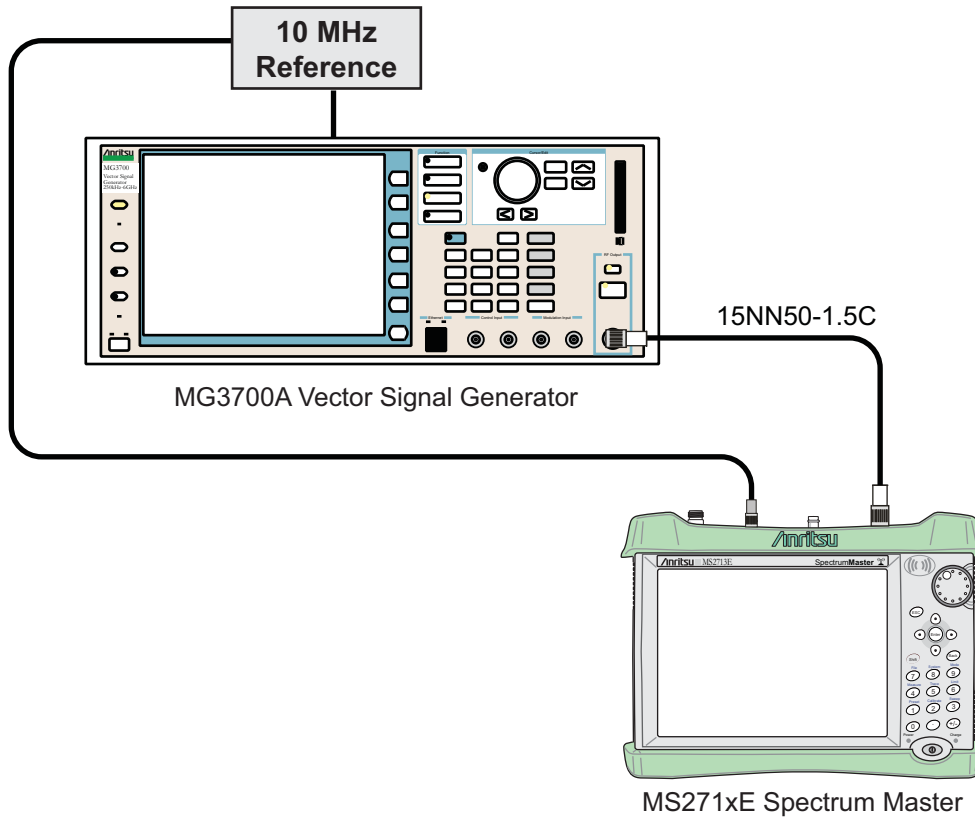

Figure 4-1. ISDB-T Signal Analyzer Test Setup
1. Connect the equipment as shown in Figure 4-1.
1. Connect the equipment as shown in Figure 4-1 on page 4-6.
7. Set the mode of the MS271xE to **ISDB-T Signal Analyzer**. Press the **Shift** key and the **Preset** (1) key, and then press the **Preset** submenu key to preset the instrument.